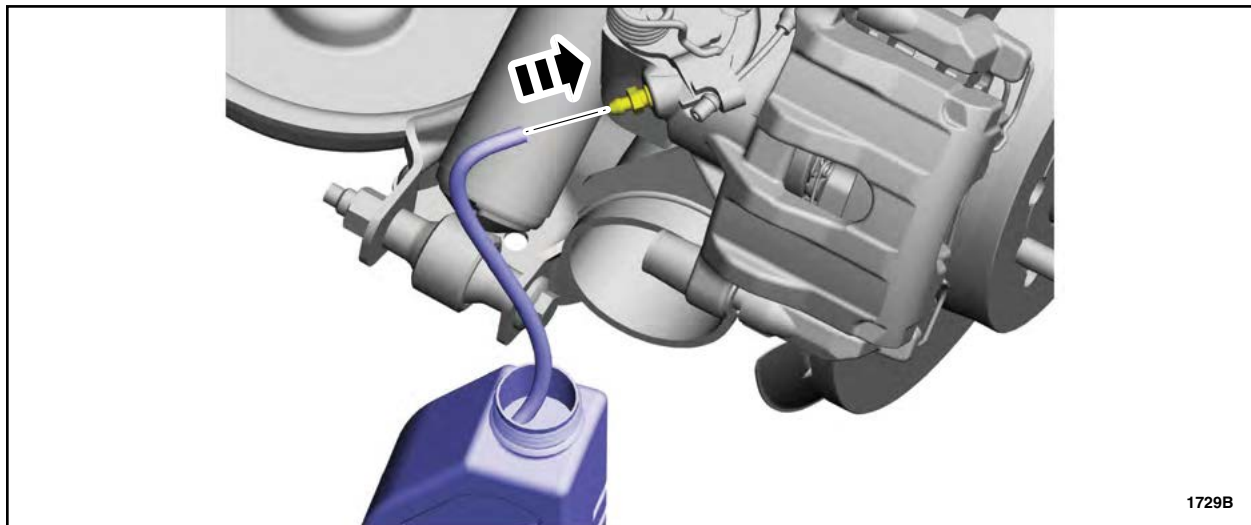

FIGURE 14
5. Remove the brake caliper bleeder screw covers and attach fluid capture reservoirs to all four brake caliper bleeder screws. See Figure 14.